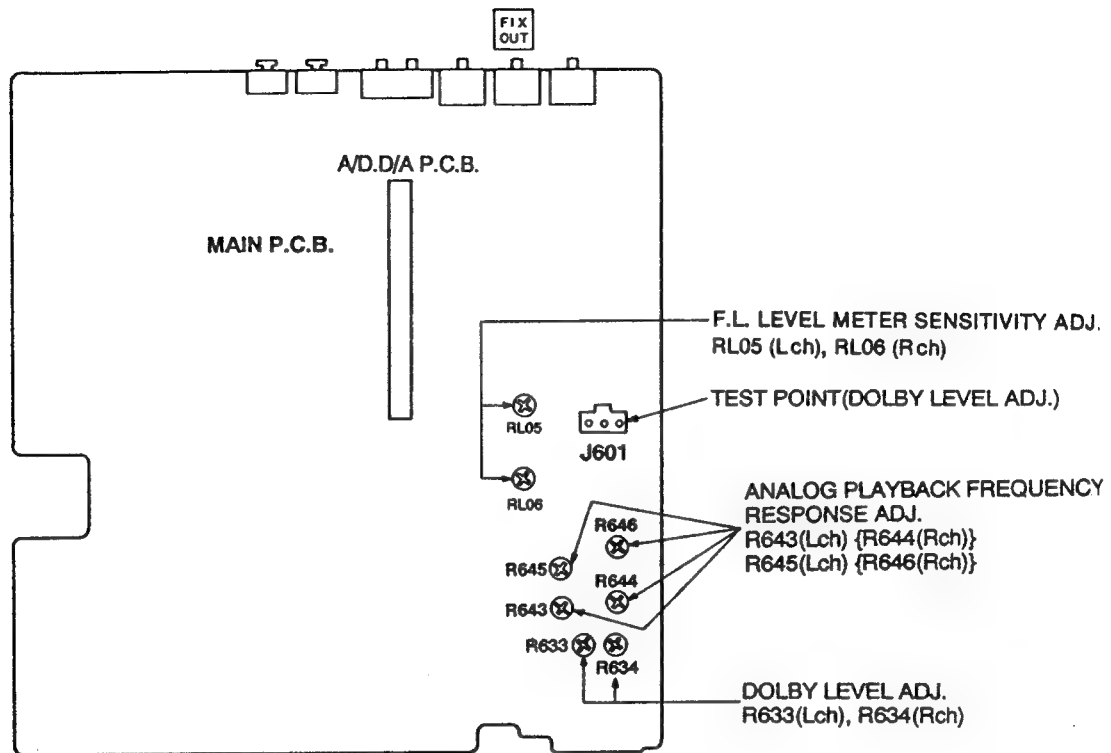

Fig. 25
- (1) While playing back the Dolby level tape (RFKZ0038), adjust the voltage at test point J601 to 338mV using R633 (Lch) and R634 (Rch) (See Fig. 25).
(See Fig. 25)
- (1) Load a **DCC Blank tape (RFKZ0033)** in the unit under test and place it in **REC PAUSE** mode.
- (2) Load the **CD Test disc (SZZP1054C)** in the CD player and play the second band (1 kHz, 0dB, L+R signal).
- (3) Adjust potentiometers **RL05 (Lch)** and **RL06 (Rch)** so the DCC unit's FL level meters indicate 0 to -2dB (See Fig. 25).